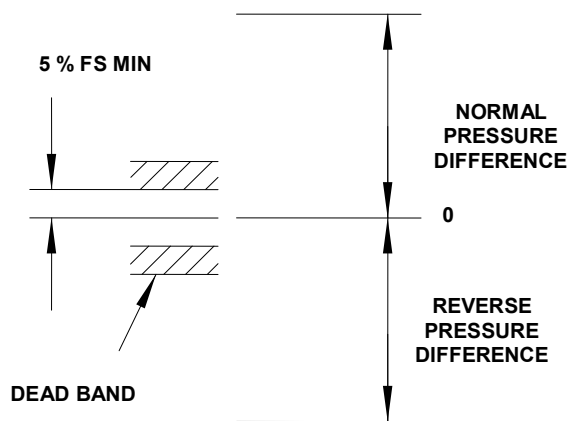

Fig 5
It is recommended that the minimum setting is to be not less than 5% of full scale (FS) either side approaching zero (see fig 5).